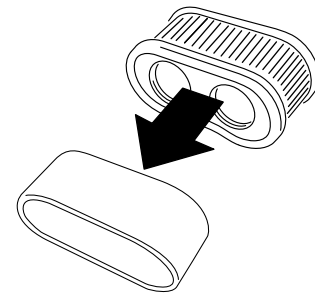

Figure 30
5. Remove the foam element from the paper element (Figure 30).